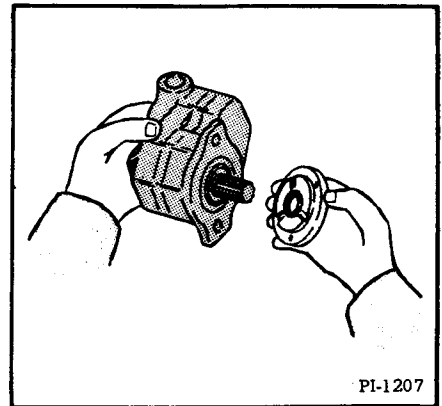

Fig. 24 Removing the Pilot Plate
- (1) Remove the pilot plate (Fig. 24). Note the position of the seal in the pilot plate. PRESS THE OLD SEAL OUT.
(1) Wash the outside of the pump with solvent. With a sharp scribe, scratch a line across the edges of the cover, gear plate and body to aid in reassembly.
(2) Remove the pilot plate and seal (Fig. 24).